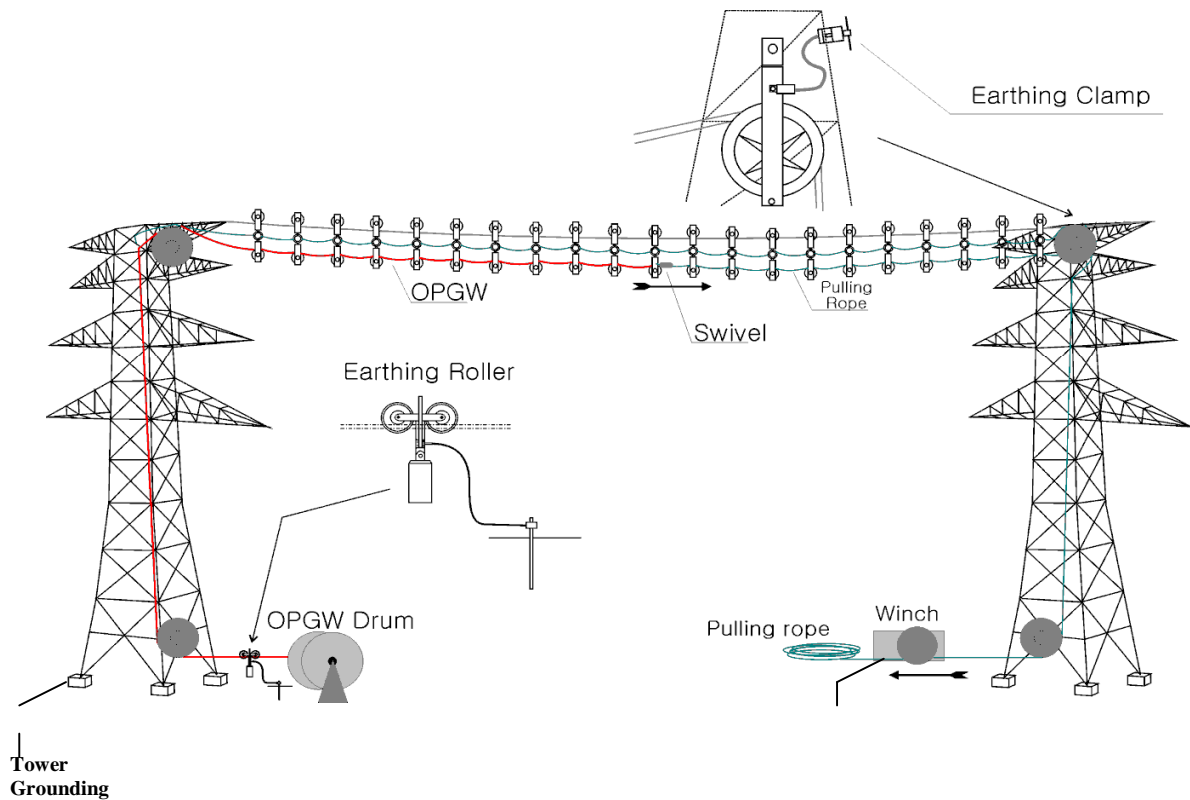

FIGURE 2 – Grounding Arrangements
- OPGW and all equipment that comes in to contact with it (such as rollers, pulling winch etc) shall be grounded. Please refer to Figure 2 for grounding arrangements.